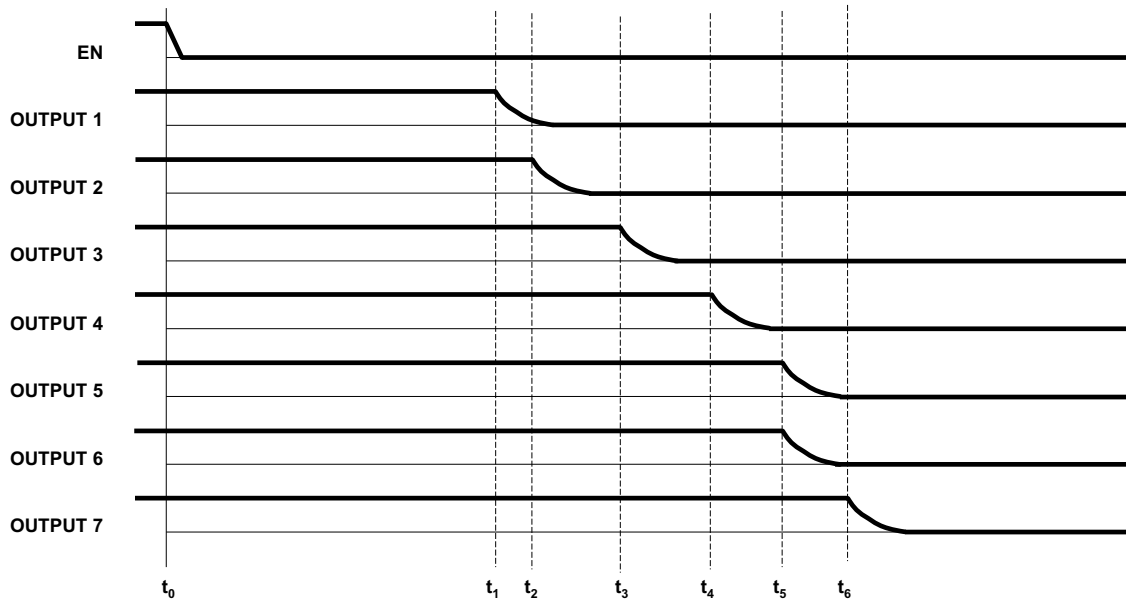

Figure 7. Shutdown Sequencing Example
*Note:* In this example, OUTPUT3 and OUTPUT4 have the same delay value. Even for a value of 0 for \*\_EN\_DLY, there is a fixed wait time while the chip starts up and completes LBIST. This additional delay time is 1ms (typ). While the EN\_DLY value specifies when an output begins to startup, each output also starts up with a factory programmed ramp rate, which is specified in Buck Regulator Startup Ramp Rate and LDO Startup Ramp Rate. An example of shutdown sequencing is shown in Figure 7.
Similar to the startup sequencing setting, each output can delay shutdown by between 0 to 63ms, which is specified in register `*_SHUTDOWN_DLY`. In Figure 7, the value of  $t_1 - t_0$  can be 0ms. During shutdown, the sequencer gives the command to shut down a specific channel, which causes that output to go high impedance (both switches Hi-Z for buck regulators and the LDO output PMOS Hi-Z for LDO regulators) and pull down through a resistance,  $R_{ds\_Bx}$  or  $R_{ds\_LDO}$ .